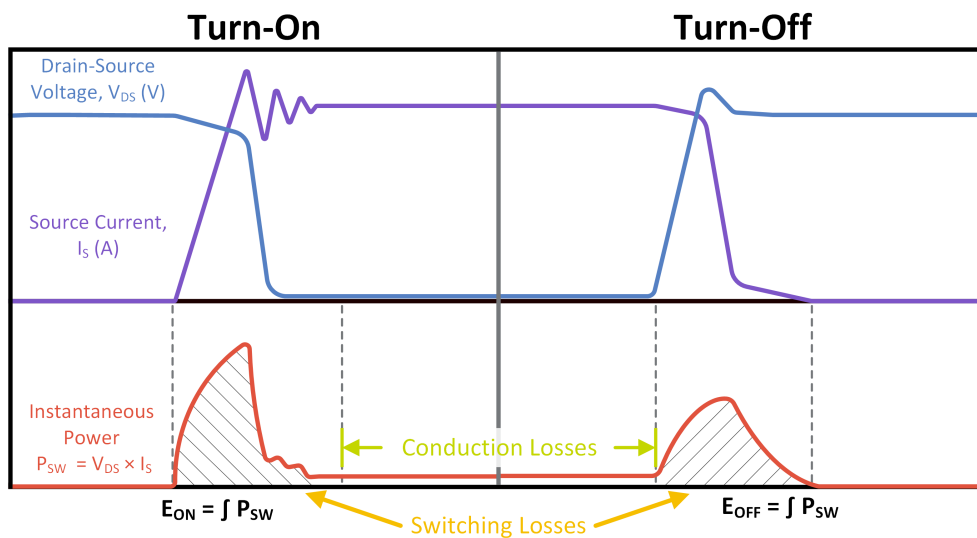

Figure 2: Notional waveforms of forward switching of Q2
Analysis of the measured  $V_{GS}$ ,  $V_{DS}$ , and  $I_D$  waveforms allows for the calculation of switching loss energies under precise test conditions to dynamically evaluate the module and facilitate in-module comparisons and power electronic system design. During a CIL switching event, the voltage across and the current through a switch position are simultaneously present. Multiplying these two waveforms point-by-point results in a time-domain function of the instantaneous power in units of Watts (W). The instantaneous power has large peaks two times per switching period at the turn-on and turn-off events. The instantaneous power can then be integrated using built-in oscilloscope MATH tools or waveform data and post processing to determine the total energy lost in Joules (J) during a given switching event. A notional example of this process is shown in Figure 2. The waveforms can also be used to determine overshoots, dead times, and slew-rates.